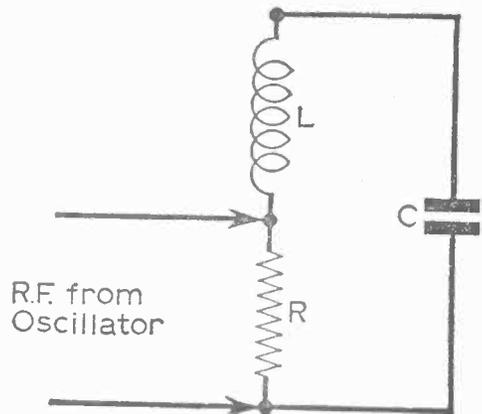
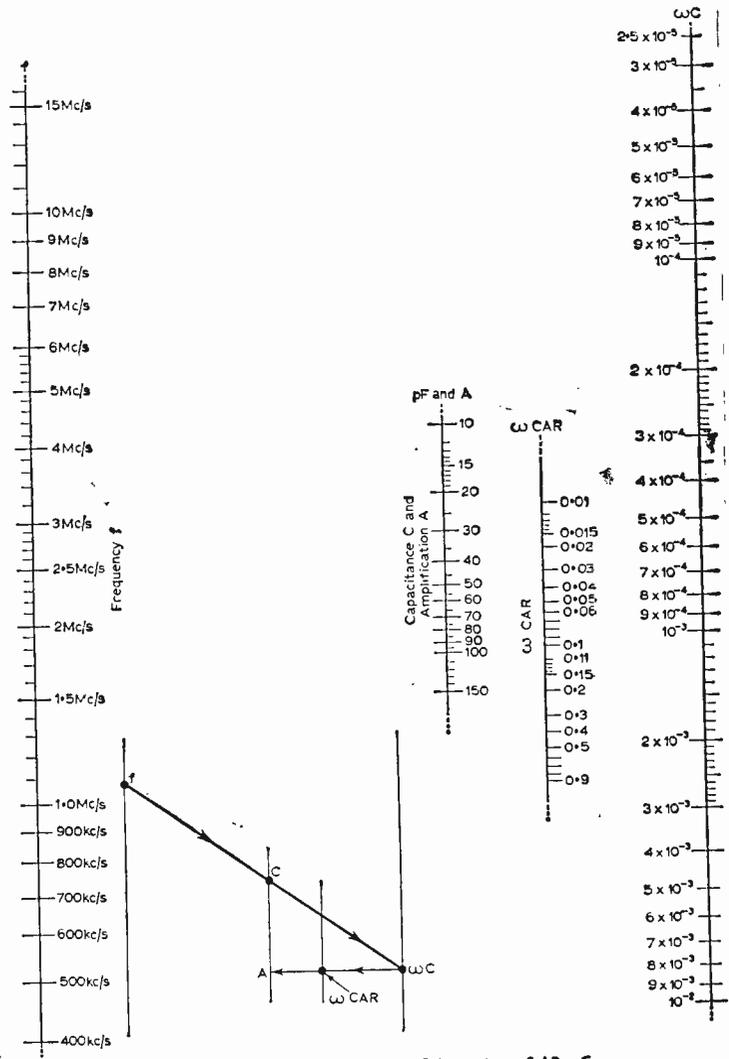

Fig. 1—An explanatory circuit for the Q-Meter.
Fig. 2—A nomograph for finding the value of ARωC.
The I.F.'s given in this example are, in fact, the now "standard" I.F.'s which are to be found in almost all modern receivers. The set-up is given in diagrammatic form in Fig. 1. In earlier models, the local oscillator was often operating below the signal frequencies, meaning that the sound I.F. was below the vision I.F. (Fig. 2). On multi-channel receivers, a channel change simply means that both the incoming frequencies and the oscillator frequency are changed simultaneously in the same ratio, so that the sound and vision I.F.'s remain the same.
Fig. 1—A block diagram of the first two stages in a television receiver common to both sound and vision. The standard I.F.'s (e.g., sound at 38.15Mc/s and vision at 34.65Mc/s) are produced by the local oscillator operating above the signal frequencies, causing the sound I.F. to be higher than the vision I.F.
Fig. 2—In early TV sets, the sound I.F. was often lower than the vision I.F., since the local oscillator was arranged to operate below the incoming frequencies, as this diagram shows. An example using such a combination is the Ultra 72 series of receivers.
The instrument now to be described uses this effect to measure the Q of a coil. The essential circuit is shown in Fig. 1. L represents the coil under test, C a good quality capacitor the losses of which can be neglected, and R is a small resistor of which the value is known accurately. An oscillator connected across R causes an R.F. current to
From equation (2) or (3) it will be noted that if the added resistance R is very small  $Q = A$ . This is the way it would be most desirable to use the instrument, but it is out of the question, unless Q is relatively low. However, the formula enables the true value of Q to be obtained from the observed quantity A. The formula should always be applied when A is found to be 60 or more. Fig. 2 is a nomograph from which the value of  $AR\omega C$ , and the chance of getting the decimal point in the wrong place.
Fig. 1 (right)—In order to maintain a constant loading on the frame output valve in spite of alteration in the resistance of the windings of the frame scanning coils, a thermistor may be connected in series with the coils as shown above. With increase in temperature, the coil resistance increases, and the thermistor is chosen and positioned so that its decrease in resistance with temperature increase compensates for the opposite effect occurring in the coils.
Fig. 2—The resistance of a normal resistor remains constant with variations in the voltage present across it; thus, the voltage/current characteristic is linear as shown in (a). With a voltage-dependent resistor, however, the resistance is not constant, but falls as the voltage across it increases. This gives a non-linear voltage/current characteristic shown in (b).